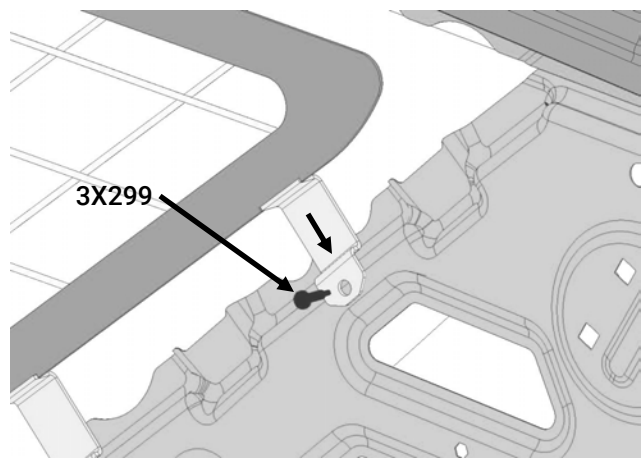

Fig. 2
B. Locate upper forward bracket on the body feature shown and fasten using self-drilling screw [3X299]. Note that frame top edge will be parallel with headliner and now in position. (Fig. 2)